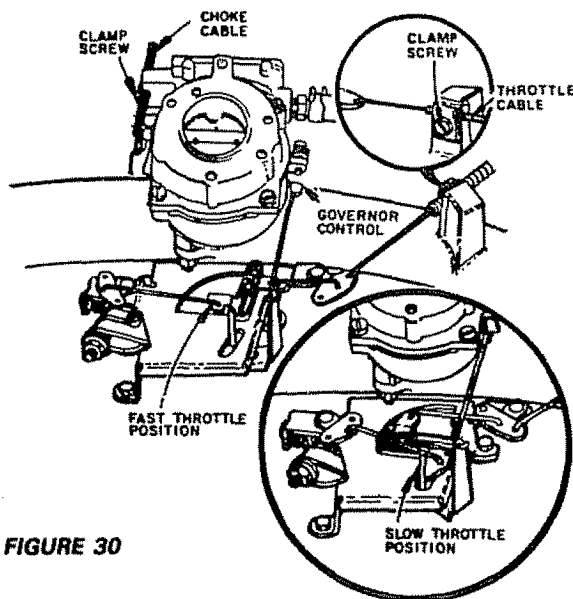

FIGURE 30
- Loosen casing clamp screw until throttle cable is free to move (Fig. 30).
- Pull throttle cable tight (until swivel is against side of quarter circle) Fig 30 Retighten casing clamp screw